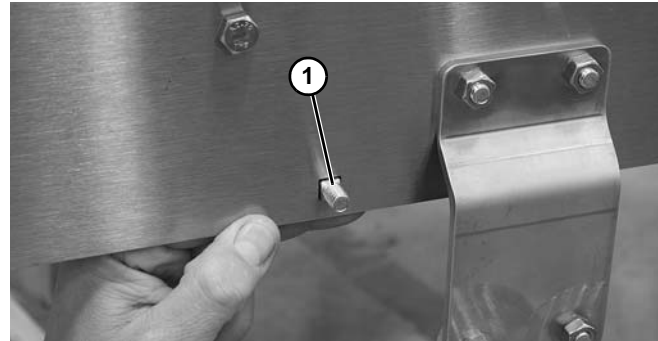

Figure 23
1. Install carriage bolt (**Figure 23, item 1**) through frame rail.